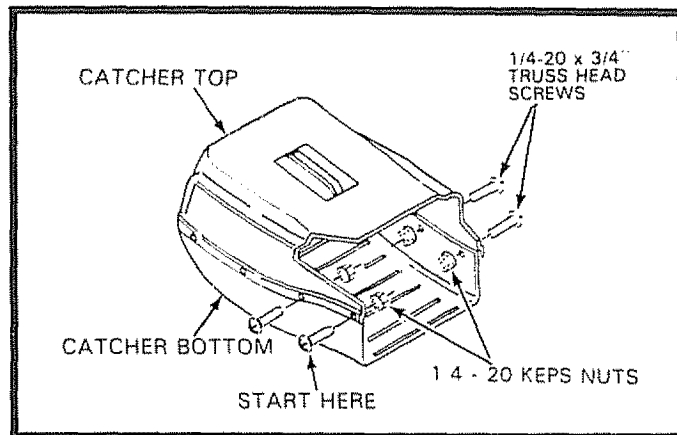

FIG. 4
- Position top half of catcher on the bottom half (See Fig. 4). Align the holes in sides of top and bottom halves of catcher.
- Install the right front truss head 1/4-20 x 3/4 screw through the catcher and install one (1) 1/4 keps nut on the screw. **DO NOT TIGHTEN** (See Fig. 4).
- Install the other seven (7) screws and keps nuts.